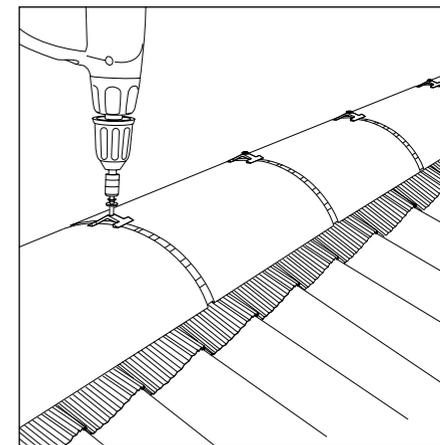

Fig 9
- 9 Push ridge tile firmly into position and secure ridge union assembly to ridge batten by fixing screw through hole in union clamp using a pozidrive No. 2 screw bit (Fig. 9).